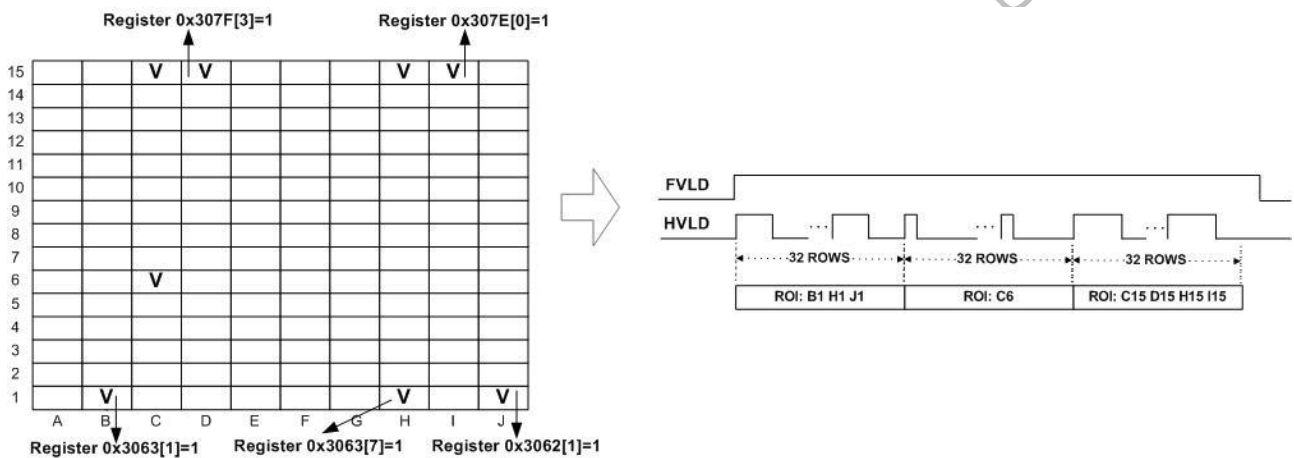

Figure 3.6: VGA ROI window readout with parallel interface
The HM0360 supports Region of Interest (ROI) window readout mode. The array is partitioned into 10(H) x 15(V) independently addressable ROI blocks. As shown in the ROI example below, the ROI selection is independent, and the frame timing will need to be programmed and adjusted based on the selected active region as shown the Figure 3.6. The resolution of each ROI block is scaled based on the binning / subsampling mode as described in Table 3.1.